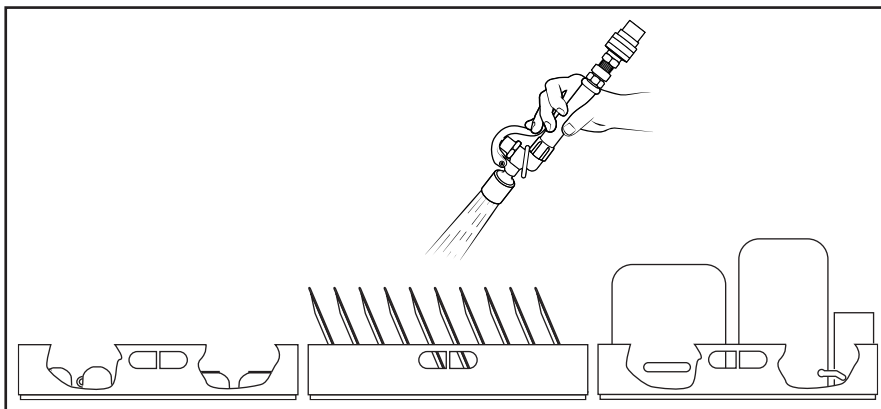

Fig. 36 - Scrap and rinse wares
1. Wares should be scrapped and rinsed to remove large food particles and debris prior to loading into dishwasher (see Fig. 36).
2. Load plates in peg racks, bowls and cups in flat-bottom racks, and glasses in a glass rack (see Fig. 36).